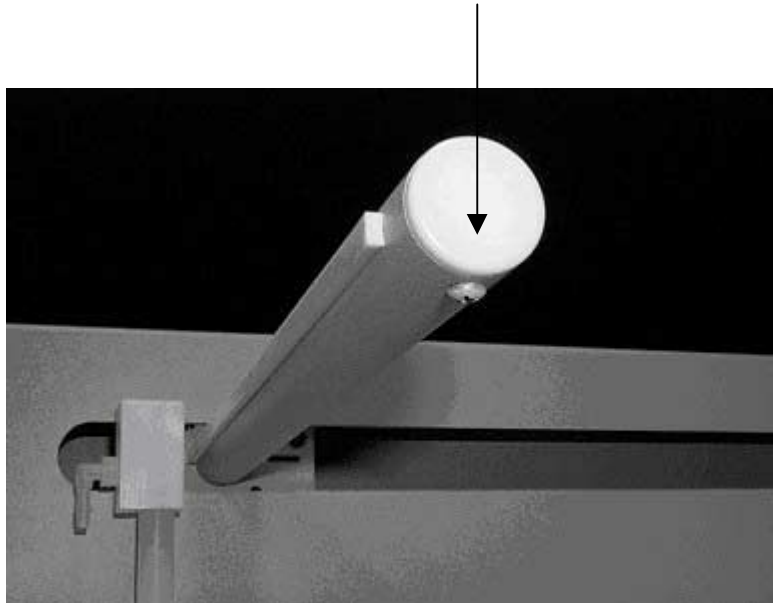

Figure 1-6. Front view of arm tube.
5. Remove the painted screw that is attached to the arm tube. See Figure 1-6.